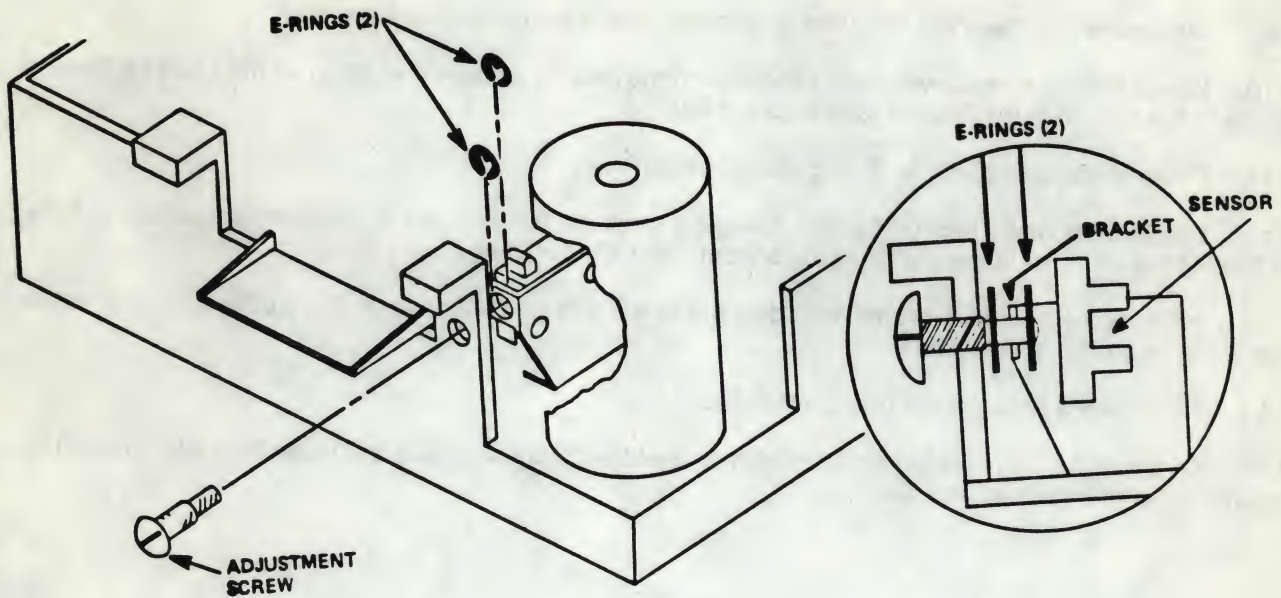

Figure 5-21
5.11.3 With a flat blade screwdriver, remove the E-ring from the Track 00 Sensor Assembly's adjustment screw located on the inside of the disk drive between the switch and its bracket (see Figure 5-21).